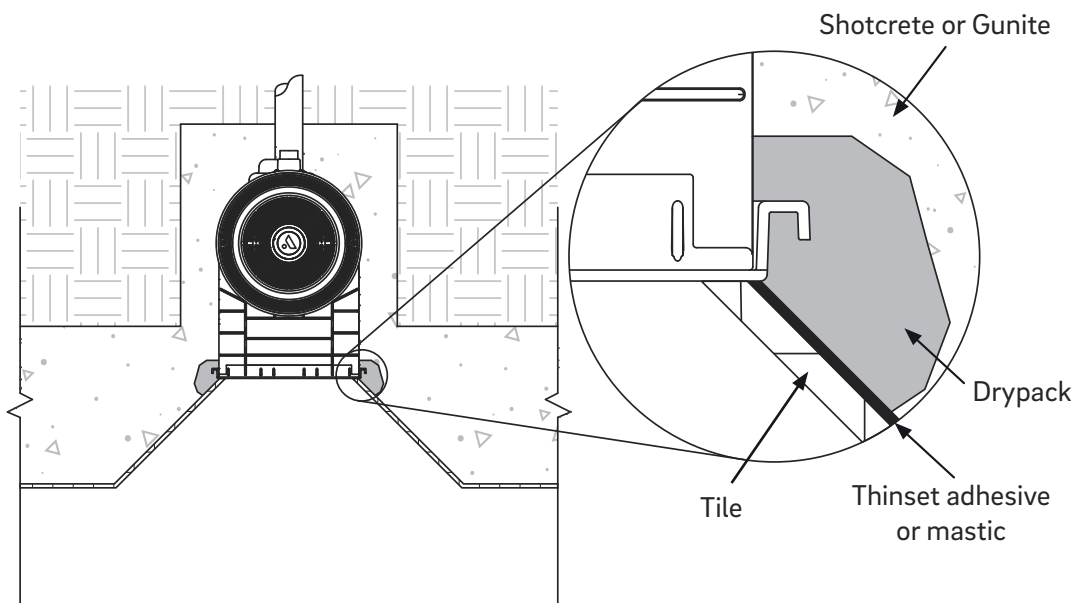

Figure 7
- After the concrete has been shot and before it has set, be sure to clear away a space approximately the width of two fingers around the perimeter and behind the waterstop (Figure 7). This will ensure enough area is available to properly dry-pack the void and prevent leaking. The newly designed waterstop provides better protection against leaks, while making it easier to properly install tile of any size.